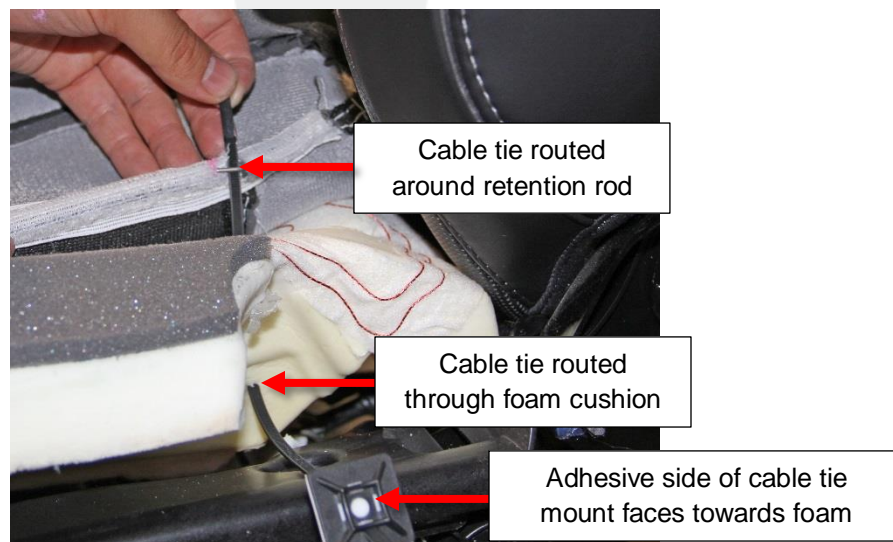

Figure 16
- Starting with the adhesive side of the cable tie mount facing the seat cushion foam, route a cable tie up through the rearmost hole in the foam and around the retention rod (Figure 16), then route it back through the hole in the foam. Loosely secure the cable tie, but do not fully tighten it.